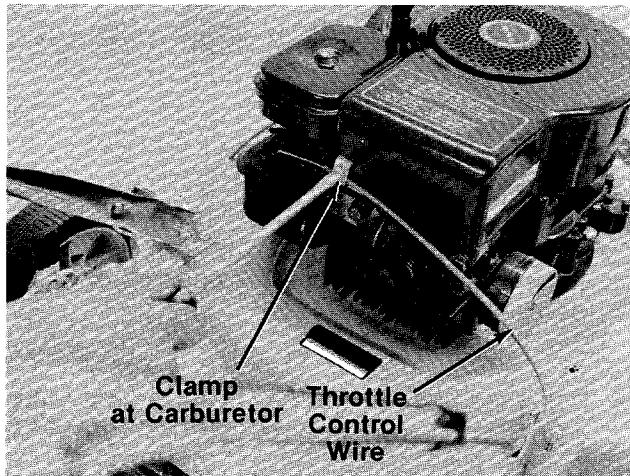

FIGURE 15.
1. Loosen clamp at carburetor that holds the cable housing. See figure 15.